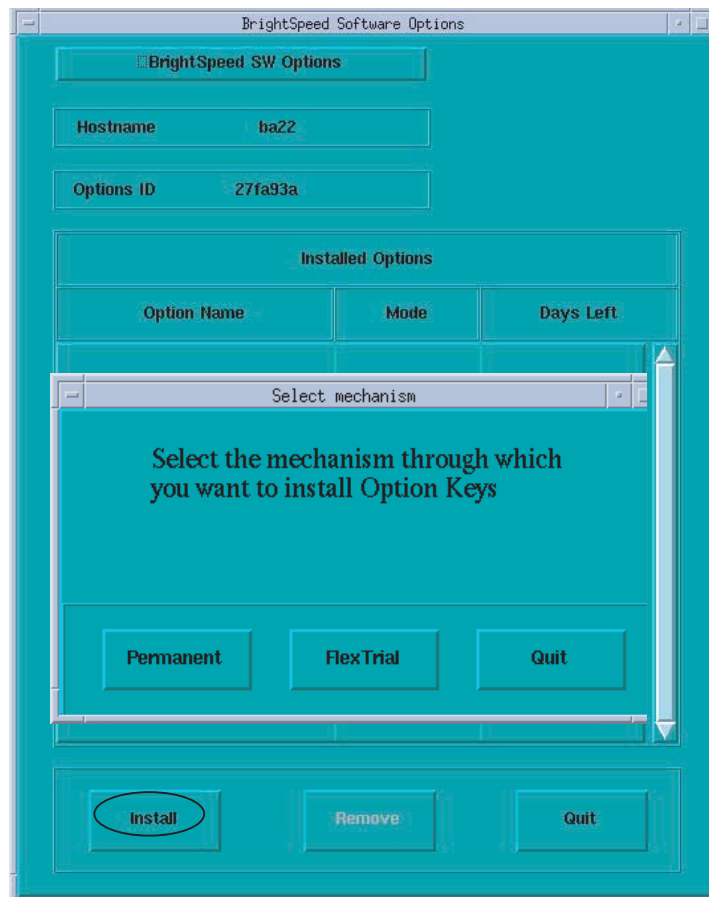

Figure 8-4 Options Window when First Selected
- 4.) Select INSTALL and click START. The console displays the Software Options window as shown in Figure 8-4.
- 13.) Click on the ACCEPT button. The system will check valid setup entries, execute a perl script that makes changes to the configuration files for HIS/RIS, and return to the Software Option window shown in Figure 8-4.